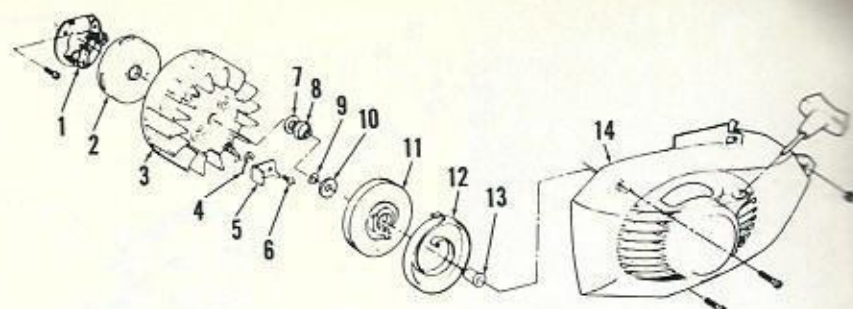

Fig. SK5—Exploded view of ignition and rewind starter used on models 944, 947, 1610 and 1612.
RECOIL STARTER. Refer to Fig. SK5 for exploded view of pawl type starter used on all models. Care should be taken if necessary to remove rewind spring (12) to prevent spring from uncoiling uncontrolled.